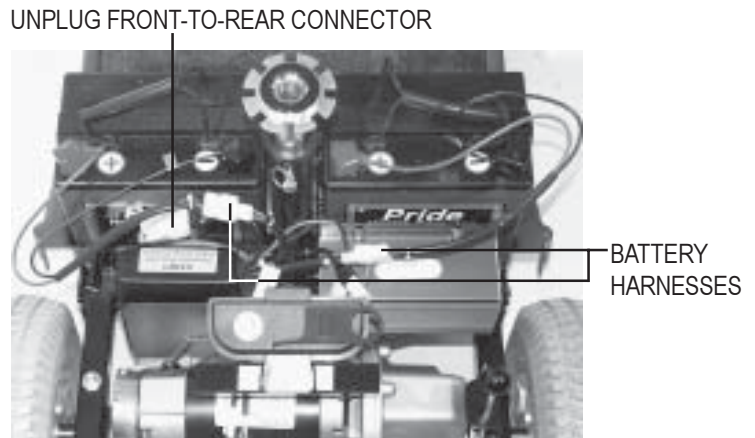

Figure 16. Disassemble Rear Connections
5. Unplug both battery harnesses. See figure 16.
7. Unplug the large, white, 9-pin front-to-rear connector that attaches the front control console assembly harness to the electronic controller module harness. See figure 16.